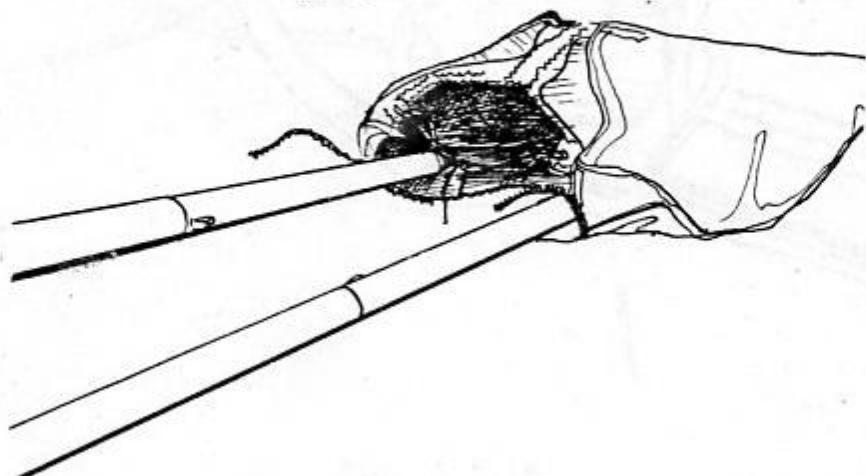

Fig. 3.1.13.
9. While pushing up on the leading edges tubes fit the sail over them. Make sure that the leading edges pass properly into the sail (Fig. 3.1.13, 3.1.14).